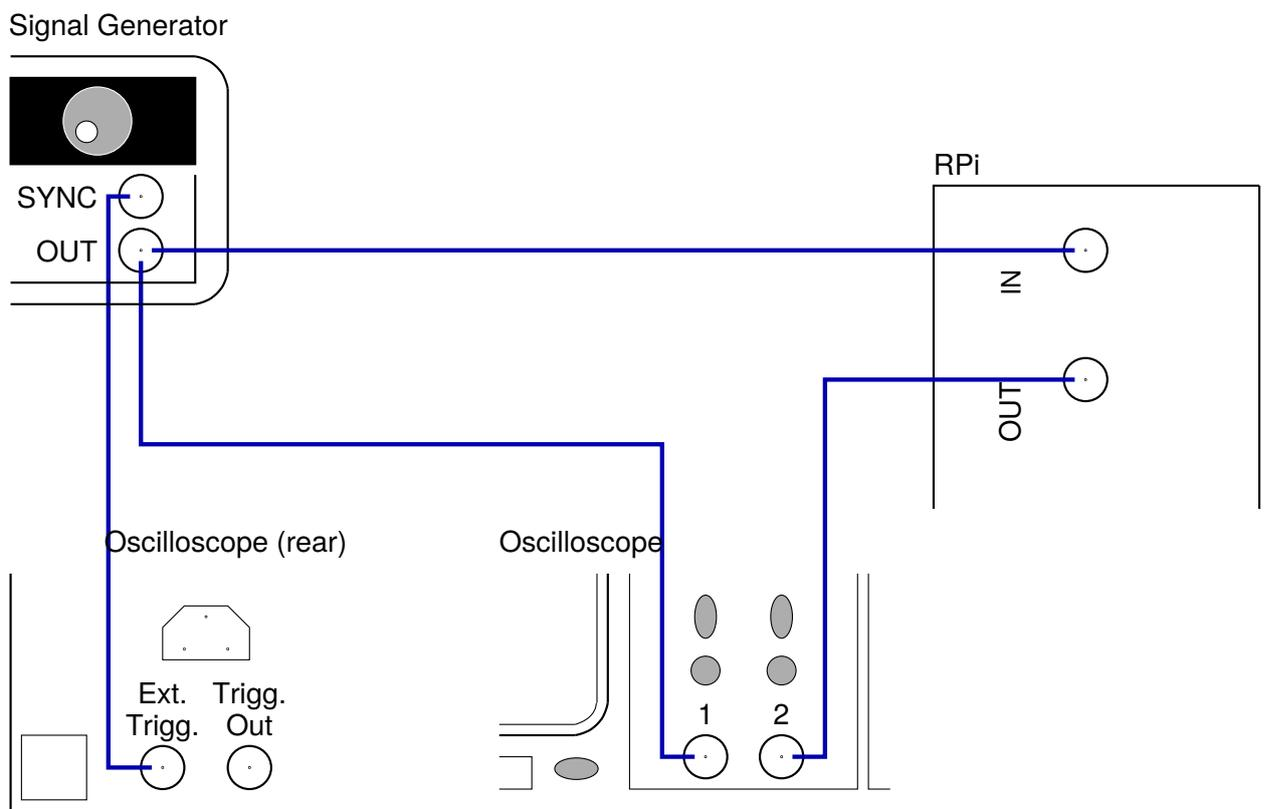

Figure 1: *Cable connections*
- Connect the *SYNC* output of the signal generator to the *Ext. Trigg.* input of the oscilloscope (you can find this connector on the oscilloscope's rear panel, see Figure 1).